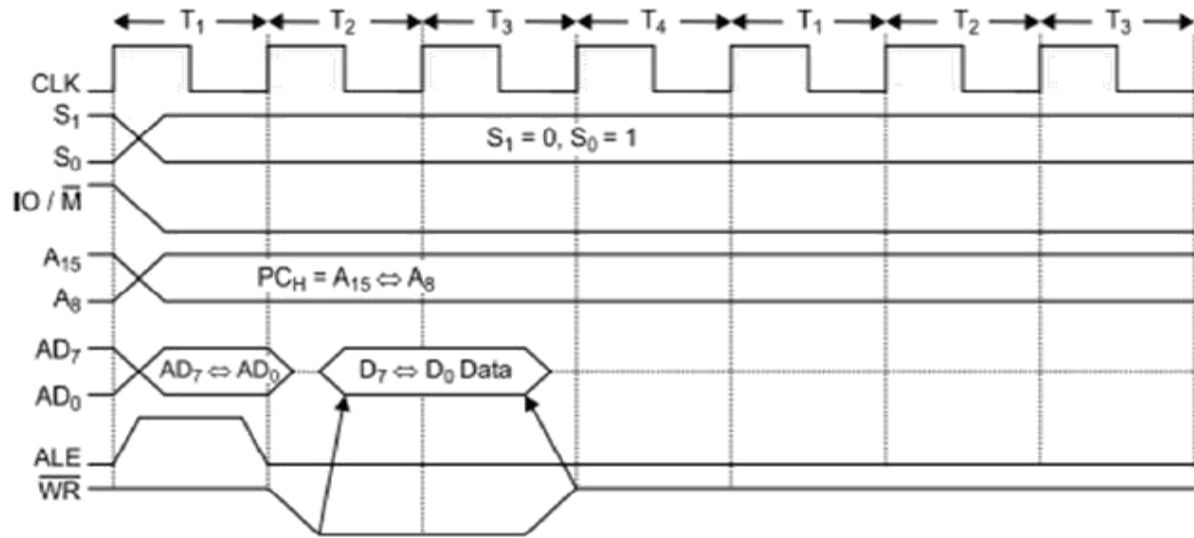

Fig 12. Memory Write timing diagram
- During T2, ALE goes low, WR (bar) goes low and Address is removed from AD0-AD7 and then data appears on AD0-AD7 as in fig 12.